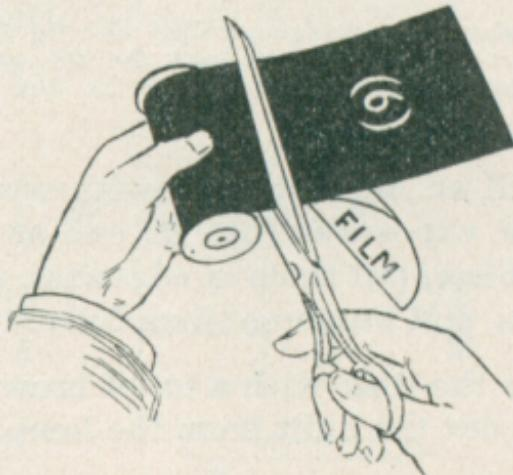

Fig. 1—RIGHT.
2. Unroll the film and cut the exposures apart, as shown in Fig. 1, cutting them at the marks which appear half way between the numbers.